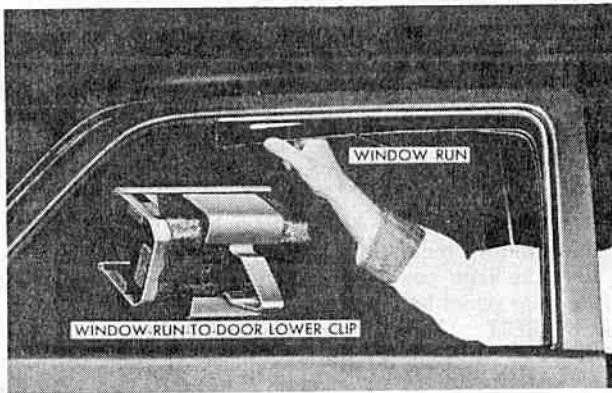

FIG. 17
**DOOR WINDOW REAR RUN** Disengage the window run to door lower clip. Then remove the run, breaking it loose from the cement (see Fig. 17).